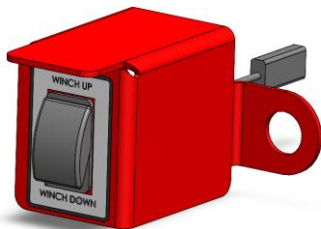
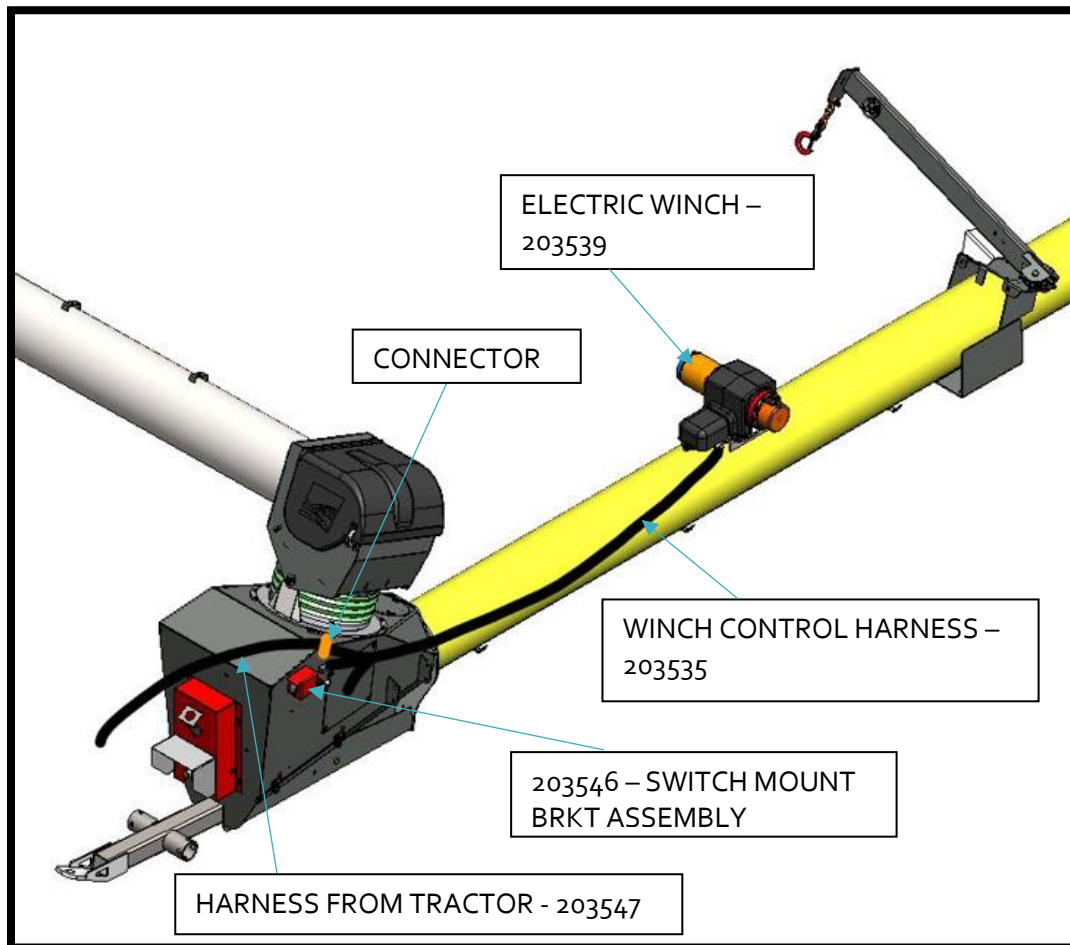
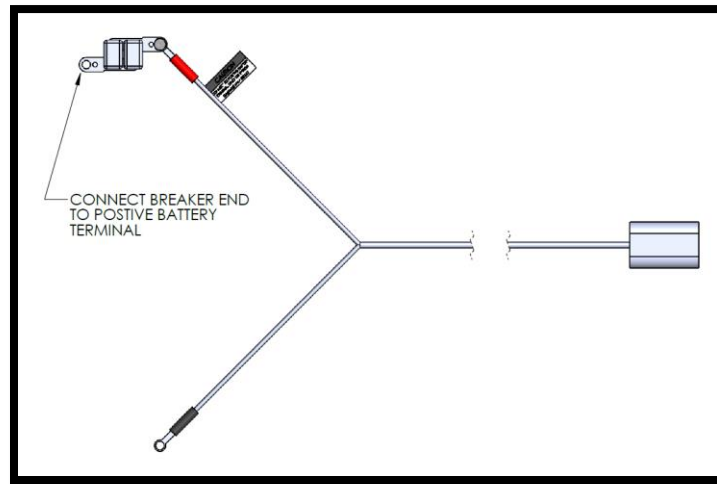
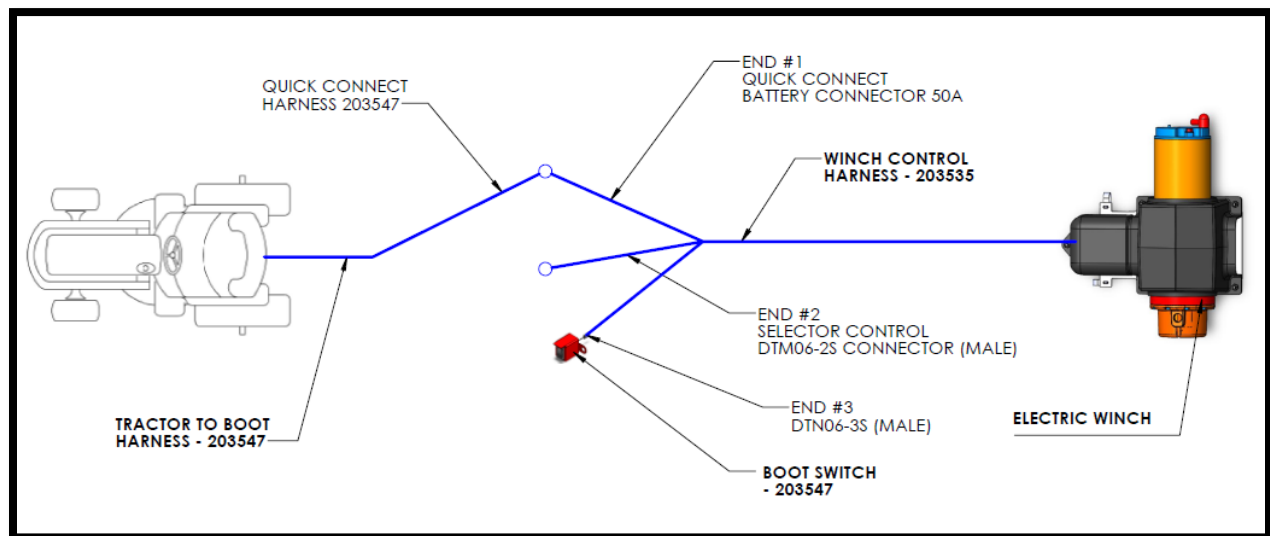

Figure 4
Figure 6: Harness routing from Winch to Boot to tractor
Figure 7: Tractor to Boot Harness
Figure 8: Harness Connections of Tractor to boot to winch
Step 2: Mount electric winch switch bracket assembly (203546) onto boot as shown in Figure 6. This switch in Figure 4 can manually lift winch "UP" and "Down".
Step 3: Route the winch control harness (203535) to the boot as shown in Figure 6 and connect it to tractor harness and boot switch as shown in Figure 7 & Figure 8. Fasten Harnesses to cable clamps after connecting.
- Attach the positive wire directly to the positive terminal on the tractor battery (the positive wire has a circuit breaker on it) as shown in Figure 7
- Attach tractor wire harness (203547) quick connect to the winch control harness (203535) quick connect battery connector 50A (labelled as END #1) as shown in Figure 8.
- Connect quick connect of E-winch switch assembly (203546) on the boot to END#3 of winch control harness (203535) as shown in Figure 8.